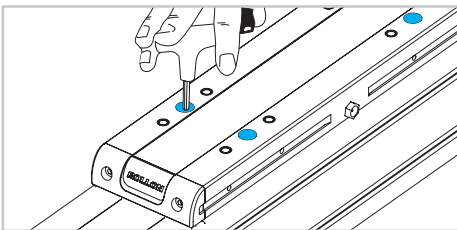

Fig. 6
- 6) Untighten and remove the screws holding the inner part of the carriage (Fig.6).